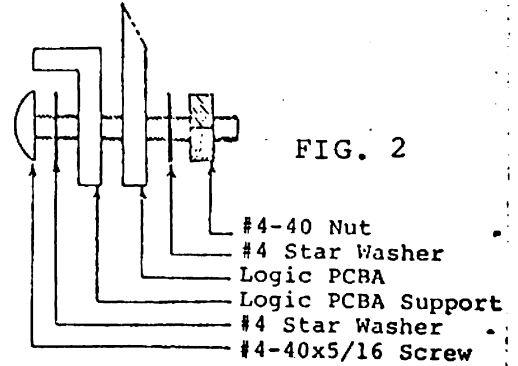

FIG. 1
**PURPOSE:** Rivets are now being used to attach the Logic PCBA support angle to the Logic PCBA. Possibilities exist that a small quantity of Model D3000 Disk Drives manufactured from April 1, 1974 through June 1, 1974, could have a riveted connection between logic and chassis ground. The support angle (P/N 102697-01) provides logic ground to chassis ground (base casting) feed through via the hinged standoffs (P/N 102729-01). Logic ground is normally transferred to the support angle by a screw located directly beneath Circuit No. U109. (Ref. Fig. 1, P.2). A small, but unknown number of these screws could have been replaced with rivets. Normally this poses no problems, however, a screw with locking star washers provides a more desirable grounding technique.
**REWORK INSTRUCTIONS:** Referencing Fig. 1, P.2, locate circuit U-109 in Area C-6. Beneath U109, remove rivet with the small diagonal cutters. Replace rivet with the #4 screw, washers and nut using the tolerance stackup depicted in Fig. 2, P.2.